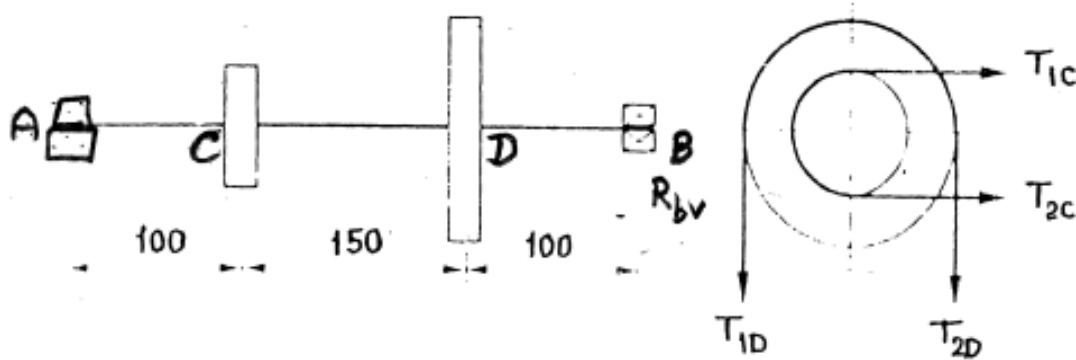

Fig. 1
1. The layout of a shaft is as shown in fig. 1. Pulley D (diameter 480 mm) drives the shaft, while pulley C (diameter 150 mm) transmits power to a compressor. The belt tensions for pulley C are 1500 N and 600 N. The ratio of belt tensions for pulley D is 3.5. Find the shaft diameter as per A.S.M.E. code. Yield strength and ultimate tensile strength for shaft material are 380 MPa and 720 MPa respectively. Assume  $K_b = 1.75$  and  $K_t = 1.25$ . If the solid shaft is replaced by a hollow shaft with outside diameter 30 mm, find inside diameter of the shaft. Compare the weights of the solid and hollow shaft.